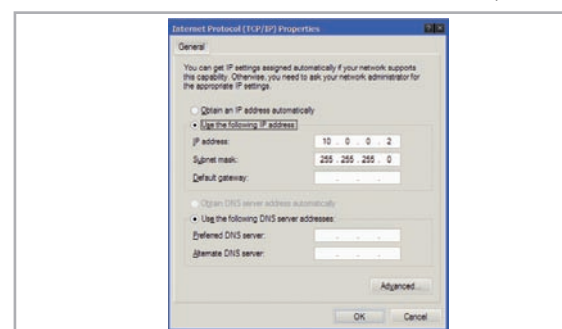

Figure 121
- Select "Use the following IP-address" and enter the value exactly as shown in Figure 121.